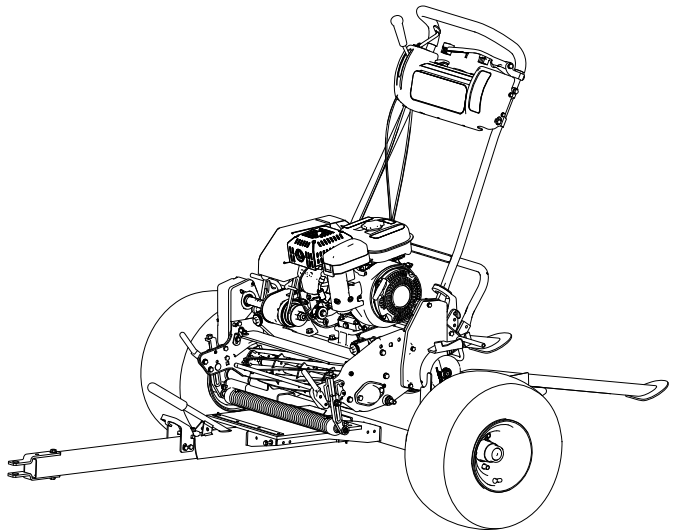

Figure 12
3. Remove the basket from the greens mower, disengage the reel drive and move the throttle to the slowest position. **Slowly** drive the greens mower onto the trailer until the wheel stops are contacted (Figure 12).